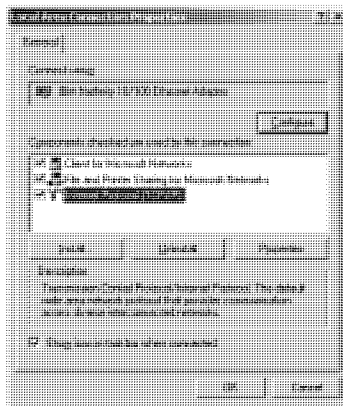

Figure 11: Local Area Connection Properties Window
5. Select the Internet Protocol (TCP/IP) and click the **Properties** Button (see Figure 11).